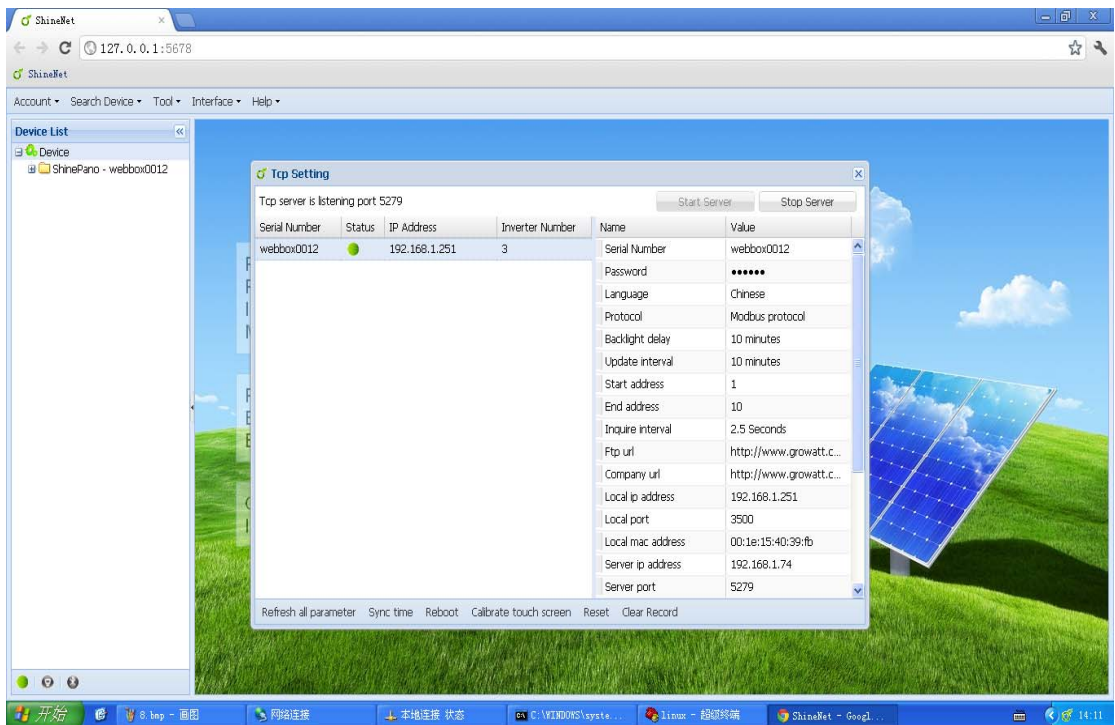

Figure 3-5-3
3. Single click Shine Server to connect Shine WebBox, then you will see parameter info of corresponding Shine WebBox as figure 3-5-3.